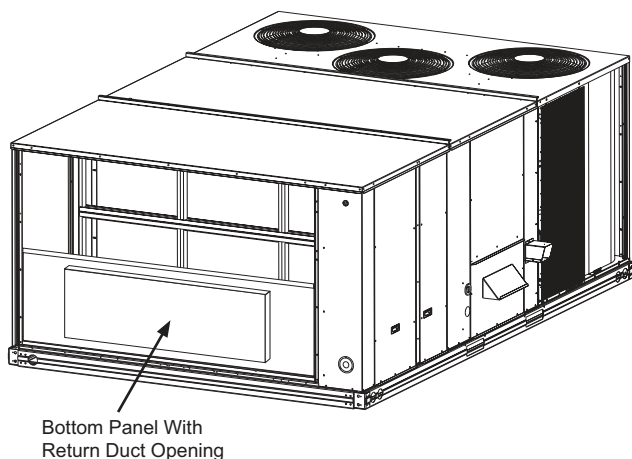

Fig. 15 — Install Bottom Panel with Horizontal Return Duct Opening
The unit has a horizontal duct opening next to the horizontal supply duct opening. However, in this application, with an economizer, the horizontal duct will actually come into the unit underneath the outdoor air hood. (See Fig. 15.)
9. Install the bottom panel (provided) with the horizontal return duct opening on the unit (see Fig. 15 and 17). Screw the panel into place.